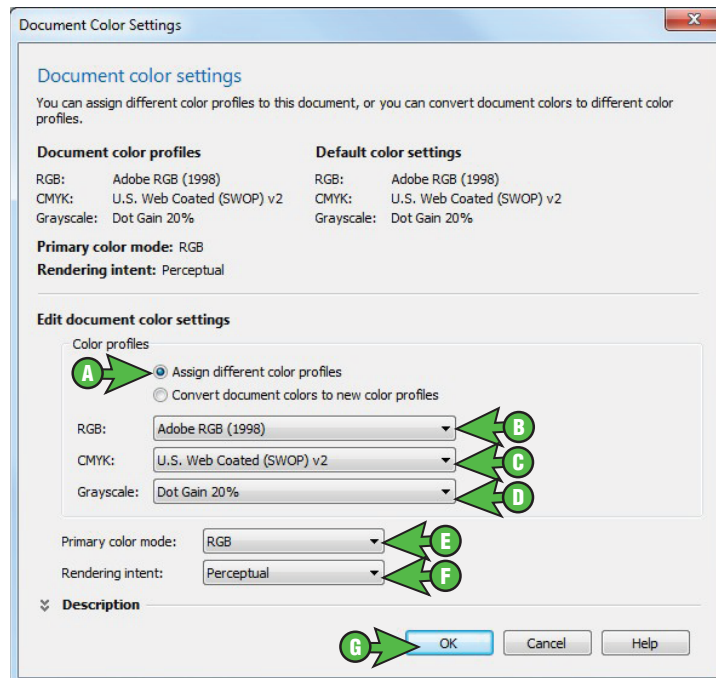

FIGURE 6
- 6.) In the Document Color Settings window, match your settings to those shown below (see *FIGURE 6*).